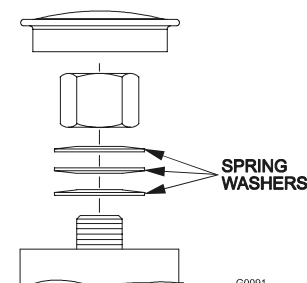

FIGURE 15
- a) Remove dust cap from caster and tighten nyloc nut until washers are flat and back off 1/4 of a turn to properly set the pre-load on the bearings. If disassembled, make sure the spring washers are reinstalled as shown in Figure 15.